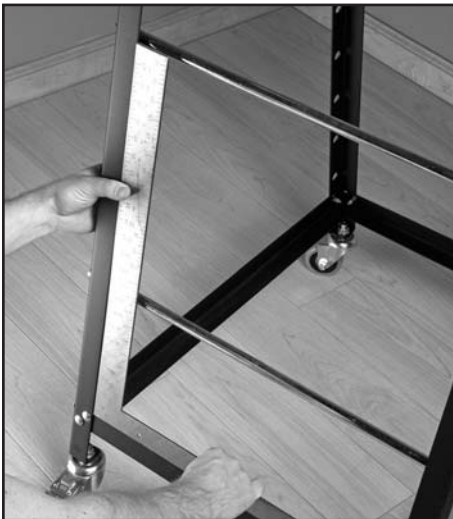

Fig. 13
12. Again, using the carpenter's square, align the top edge of the Lower Front Stretcher (3) with the bottom edge of the square. Now place the left edge of the square against the left edge of the Left Leg (5) and adjust as needed. **Fig. 13.**